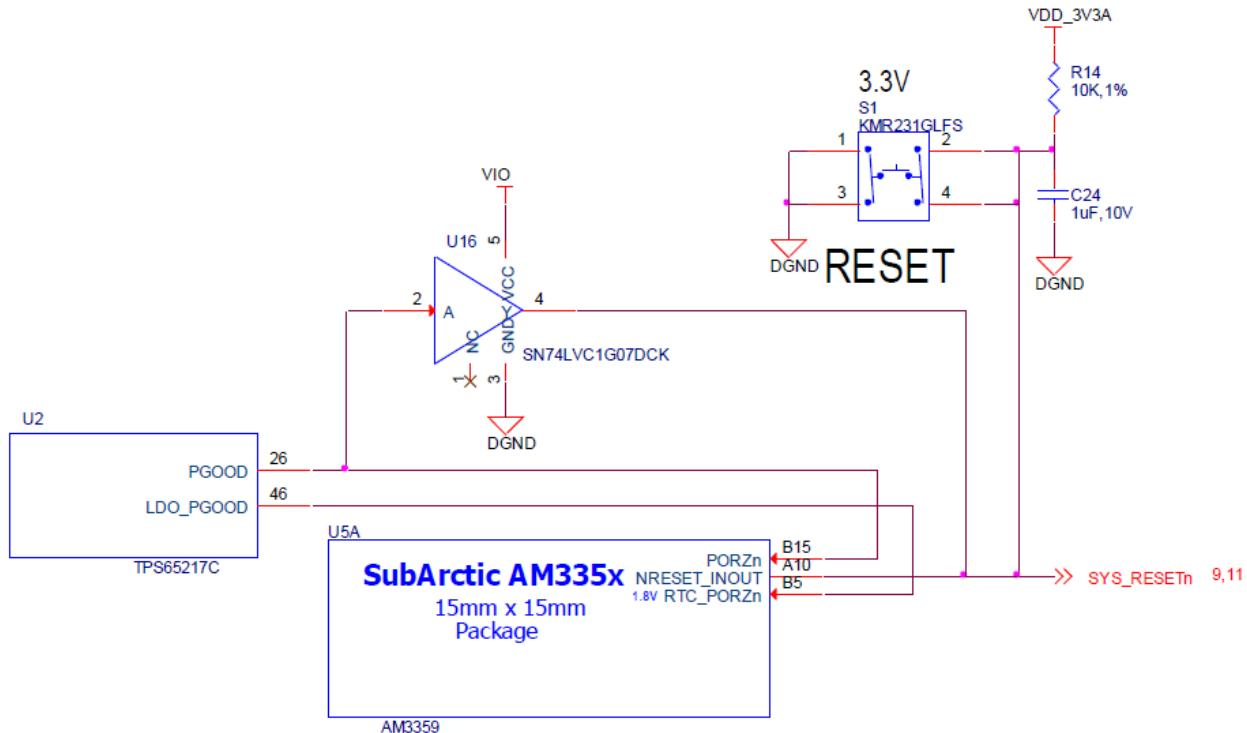

Figure 31 Board Reset Circuitry
**Figure 31** is the board reset circuitry. The initial power on reset is generated by the **TPS65217C** power management IC. It also handles the reset for the Real Time Clock.